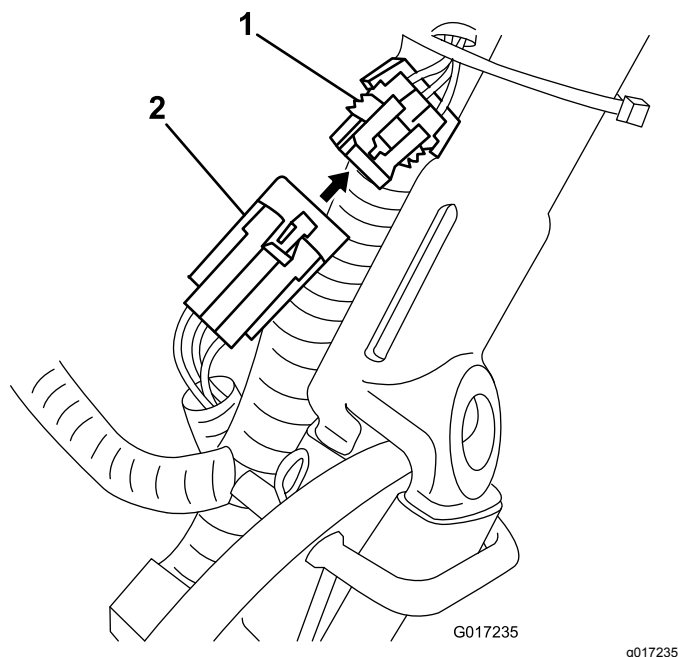

Figure 15
14. Route the pack to machine wire harness under and behind the main harness on the left side of the machine and connect the small 6-pin connector on the harness to the matching connector on the main wire harness as shown in Figure 15.